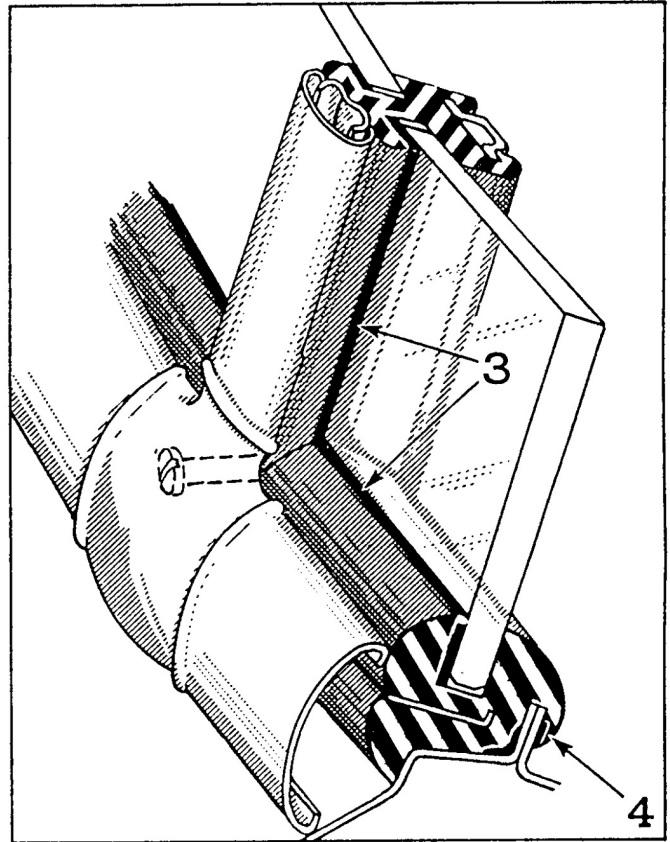

Fig. 18—Sealing after Glass and Channel are in Position
8. After the assembly is in position and before the moldings are installed, seal as indicated (fig. 18) using 3-M Weatherstrip Adhesive in a sealing gun.
- a. Seal between outer lip of rubber and glass as indicated at (3), completely around opening.
- b. Before garnish molding is installed, seal under inner pinch-weld lip of rubber channel as indicated at (4).